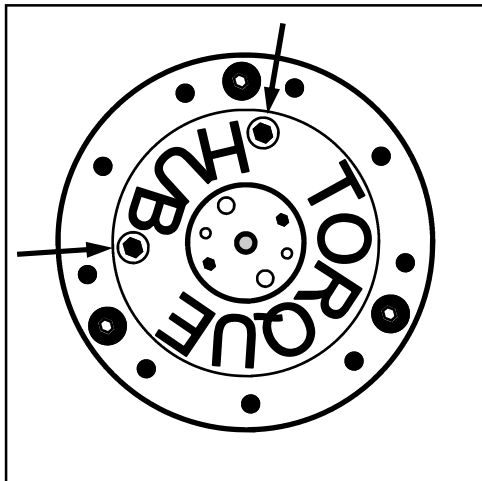

FIG 57-1
**OIL LEVEL** - Each Torque Hub® should maintain an oil level of half full at all times. Less than that would limit lubrication, and over half full could cause overheating and damage. To check oil level, position Torque Hub® so one of the face plugs is positioned at 12 O'clock (fig. 57-1). The other plug will be either at 9 O'clock or 3 O'clock. Remove the lower plug: if no oil comes out, oil level is too low. Check Torque Hub® oil level daily.